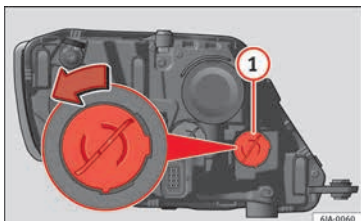

Fig. 93 Changing turn signal bulbs.
- Turn the bulb holder »»» **Fig. 93** ① anti-clockwise and remove it.